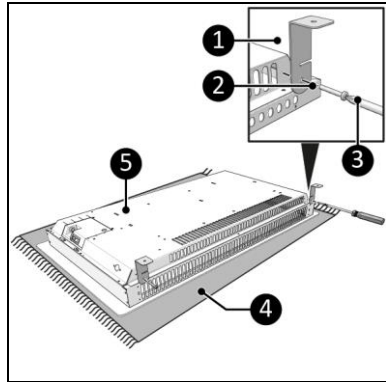

Figure 11
7. Lay the device down on a soft, steady surface (Figure 11, pos. 4).
8. Screw and tighten two brackets (Figure 11, pos. 1) on both sides of the main body (Figure 11, pos. 5) with a small screw (Figure 11, pos. 2) using a Phillips screwdriver (Figure 11, pos. 3).